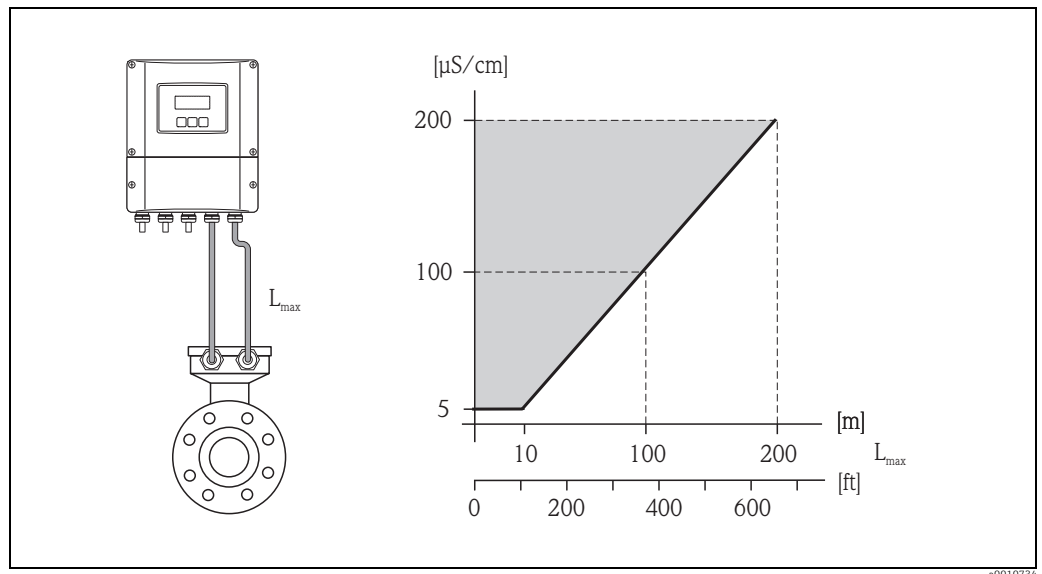

Fig. 16: Permitted lengths for connecting cable in remote version, as a function of the conductivity of the fluid
- The permissible cable length  $L_{\max}$  depends on the fluid conductivity ( $\rightarrow$  Fig. 16).